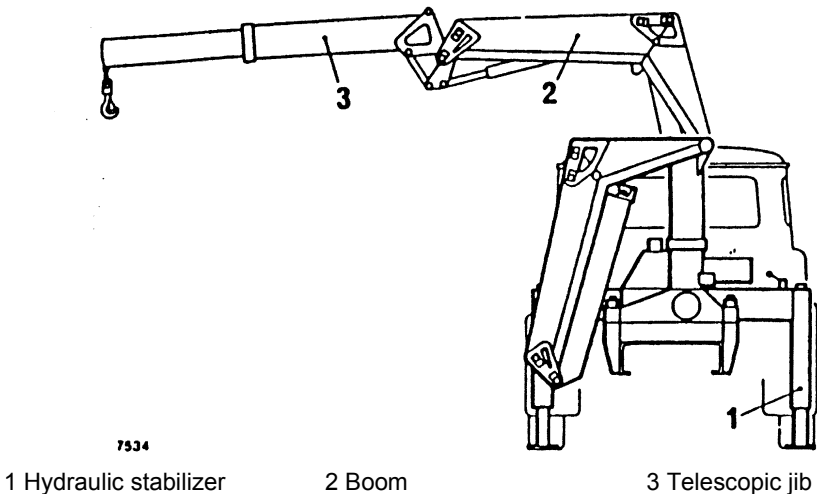

Fig 2 Hydraulic Crane
1.7 To move the loading crane into working position, lift the boom (Fig 2(2)) until the safety hook disconnects the jib (3). Working instructions for the crane are self explanatory by referring to the appropriate illustrations.